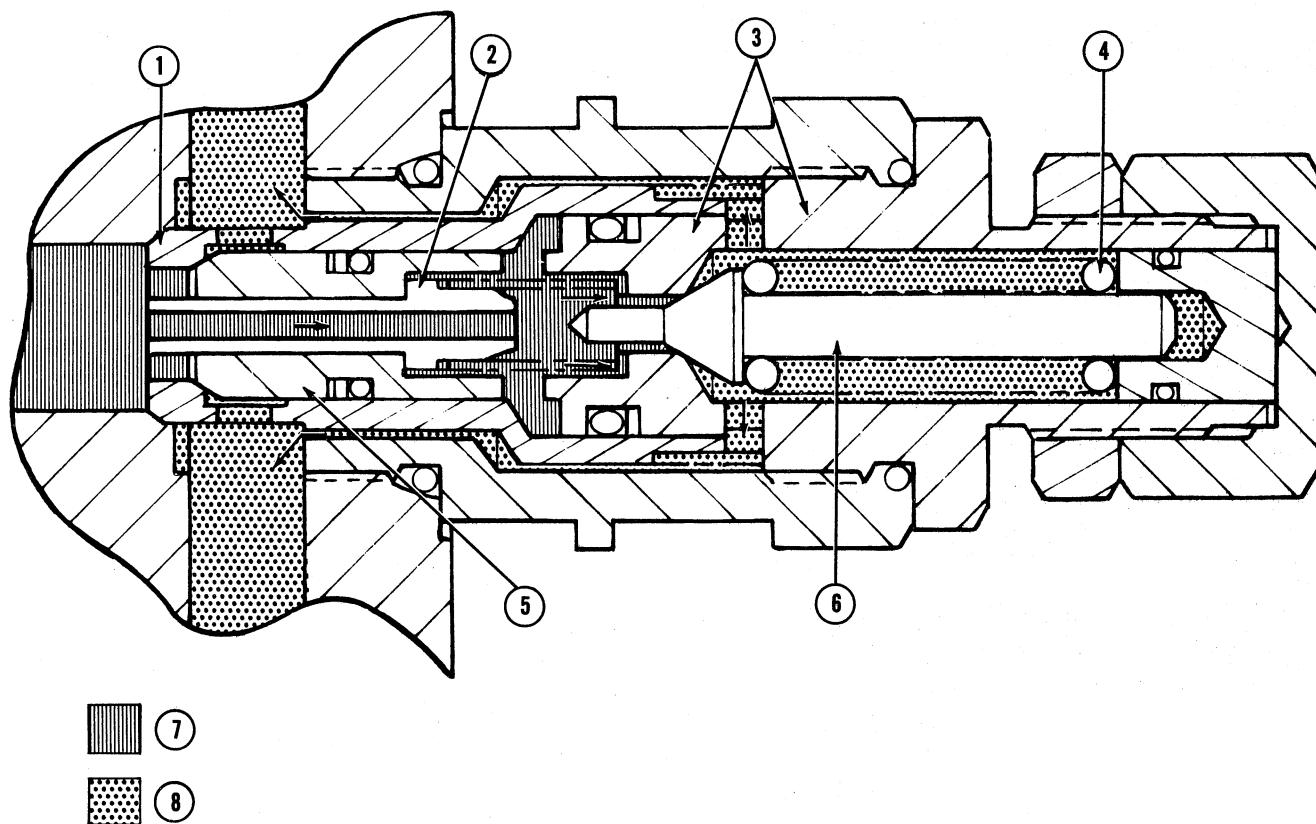

Figure 8
High pressure cylinder oil enters the relief valve through the end of the hollow piston (2), Figure 8. This oil acts against the pilot valve (6) and the bottom end of the poppet (5). When the pressure at the cylinder port exceeds the force exerted by the pilot valve spring (4), the pilot valve is unseated, and oil flows around the outside of the sleeve poppet (1) and to the low pressure return.